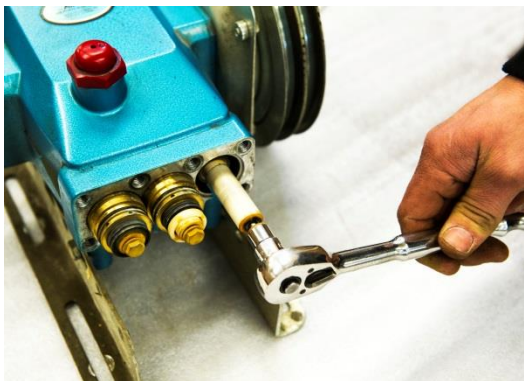

Figure 21: Removing plunger
1. Using a 10-mm socket, remove the ceramic plunger and plunger retainer from the piston rod (see Figure 21).